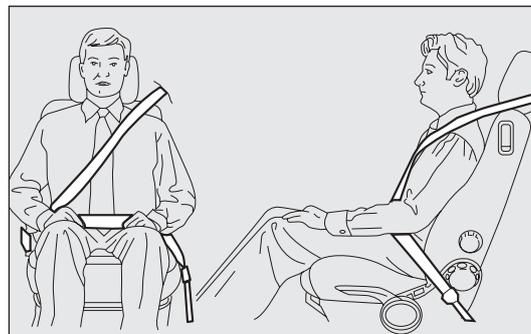

fig. 127
*The belt must not be twisted. The upper part must cross the shoulder and the chest diagonally. The lower part must adhere to the hips fig. 127, not to the abdomen. Do not use devices (clips, clamps, etc.) that prevent the belts from being snug to the passenger's body.*